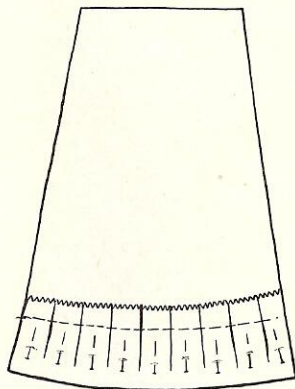

Fig. 22
- D. Close the pie-shaped cuts so that the cut edges meet and the hem lies flat, then hand baste into position  $1/4''$  from the raw or pinked edge, as shown in Fig. 22.